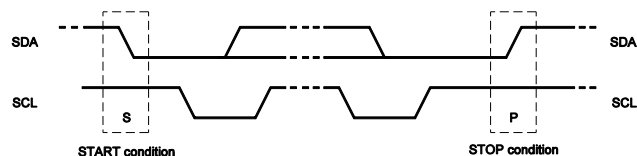

Figure 4: Start and Stop Conditions
The start (S) and stop (P) conditions are signaled by the master device, which signifies the beginning and the end of the I²C transfer. A start condition is defined as the SDA signal transitioning from high to low while SCL is high. A stop condition is defined as the SDA signal transitioning from low to high while SCL is high (see Figure 4).